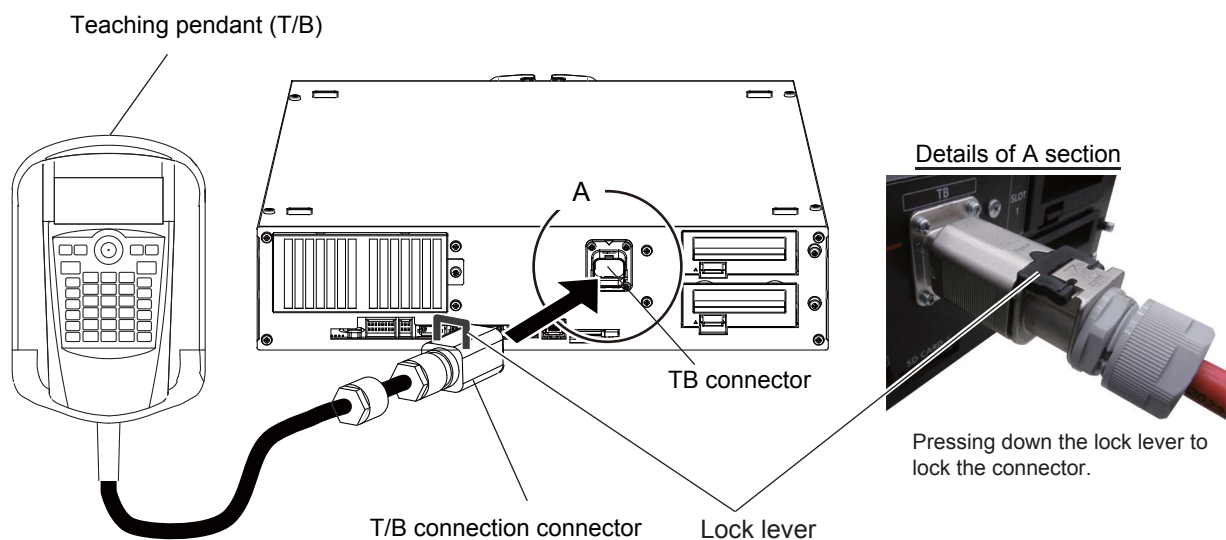

Fig. 2-7: Installing the T/B
- 2) Refer to Fig. 2-7 and connect T/B connector to the robot controller.